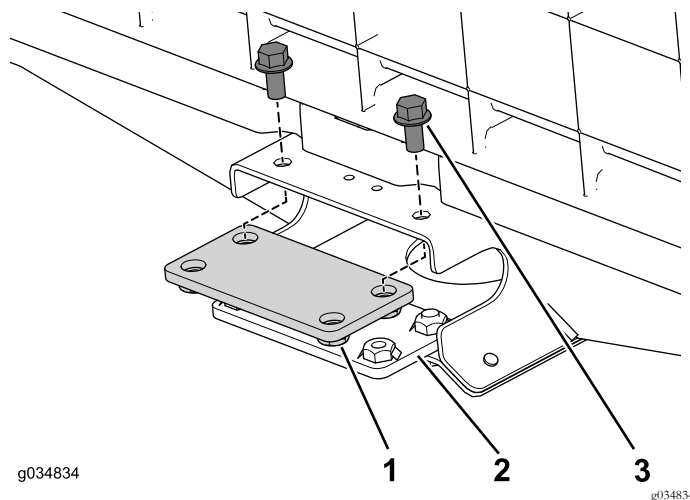

Figure 21
- Use the 4 flange bolts (3/8 x 3/4 inch) to loosely install the top and bottom connection plates to the center channel on the front section (Figure 21).